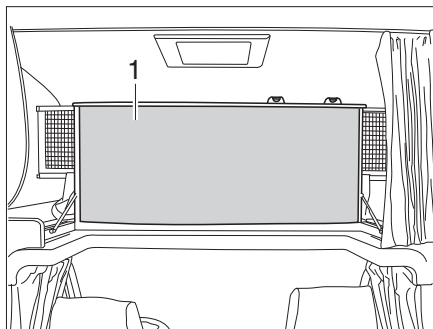

Fig. 140 Overcab bed, folded upwards
- Fold the front of the overcab bed (Fig. 140,1) upwards. The overcab bed is kept in the upper position by gas-pressure springs.